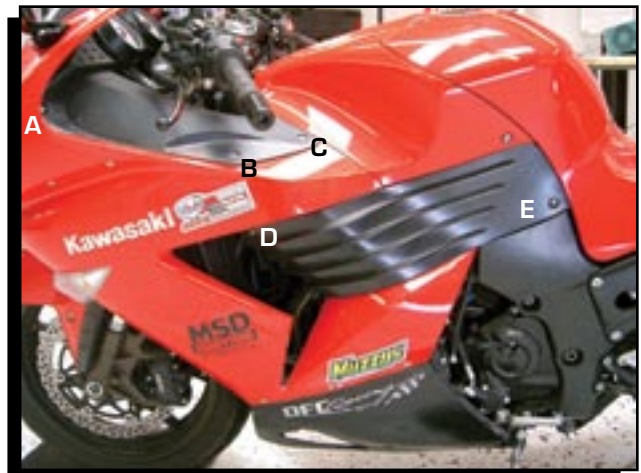

Figure 1 Removing the Dash Screws and Cover.
1. Remove dash screws A, B and C on left and right side of the bike then remove dash cover assembly (Figure 1).
2. Remove panel's screws D and E on left and right side of bike. Gently remove the side covers (Figure 1).